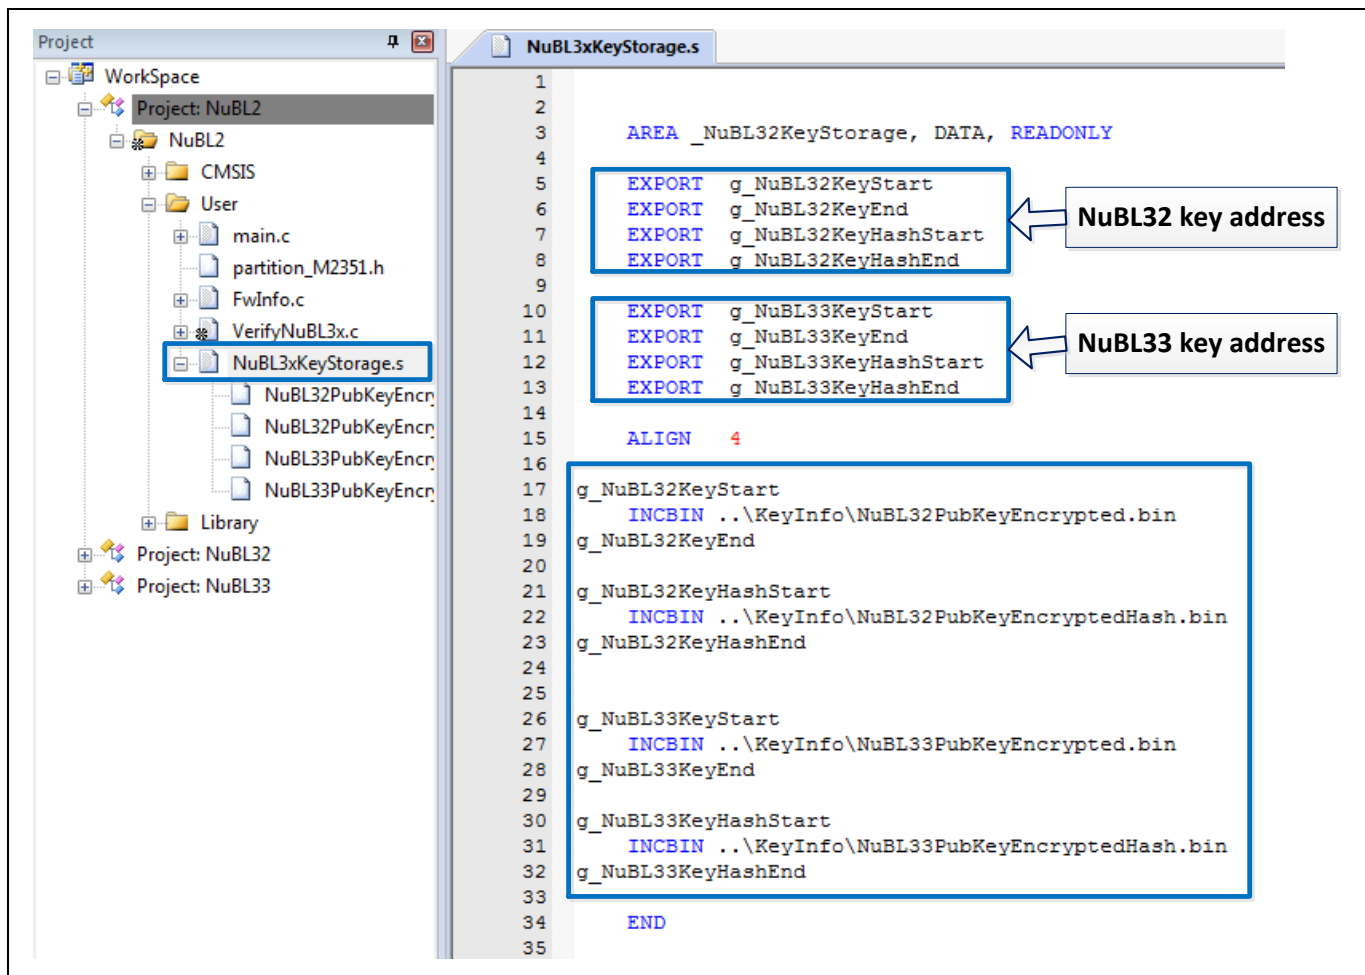

Figure 5-21 Include NuBL32/NuBL33 Key Files
1. Add a NuBL3xKeyStorage.s shown in Figure 5-21 for including all NuBL32/NuBL33 key files in the NuBL2 project. All the related files could be found at “\SampleCode\MKROM\SecureBootDemo\NuBL2\KeyInfo”.